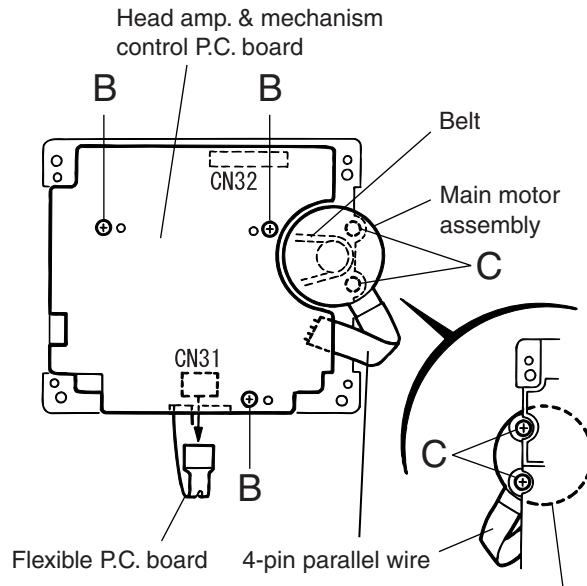

Fig. 4 Main motor assembly
■ Removing the Head Amplifier & Mechanism Control P.C. Board (Refer to Figs. 4 and 5.)
■ Removing the Main Motor Assembly (Refer to Figs. 4 to 7.)